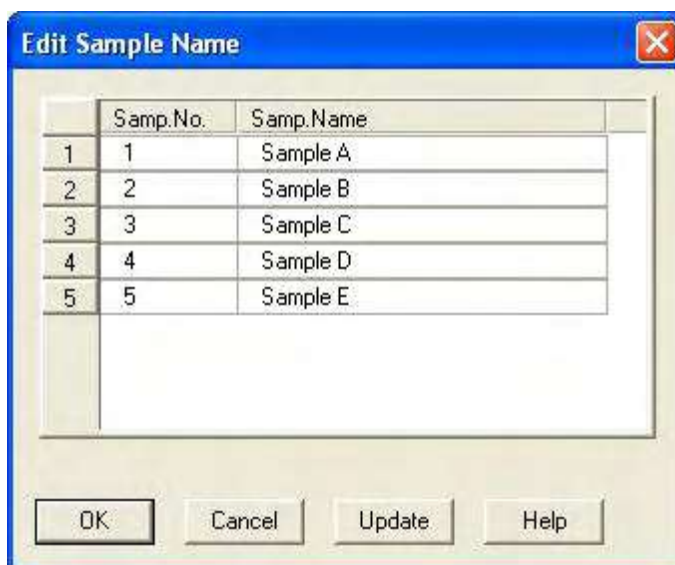

Fig. 4-34
- (c) Enter sample names as exemplified in Fig. 4-34 and click the **Update** or **OK** button.